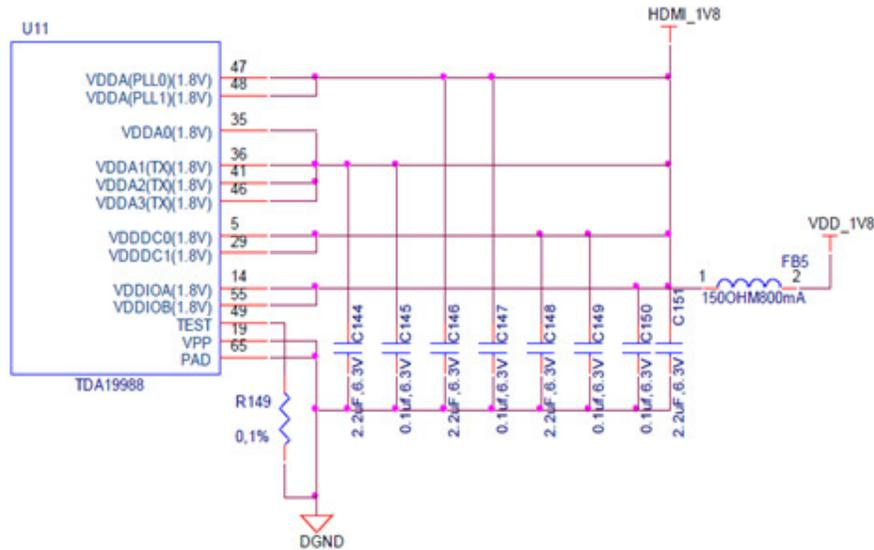

Figure 46 HDMI Power Connections
**Figure 46** shows the power connections to the **TDA19988** device. All voltage rails for the device are at 1.8V. A filter is provided to minimize any noise from the 1.8V rail getting back into the device.